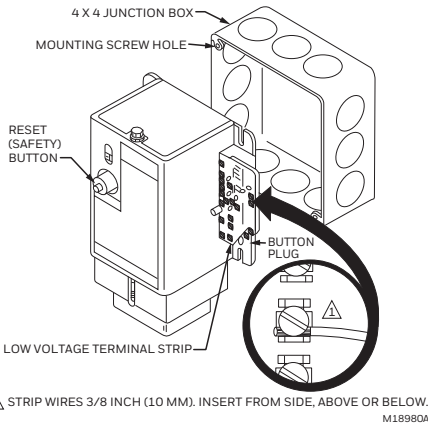

Fig. 2. Mount the R8184M after making line voltage connections.
3. Mount the R8184M to the junction box. Refer to Fig. 2.